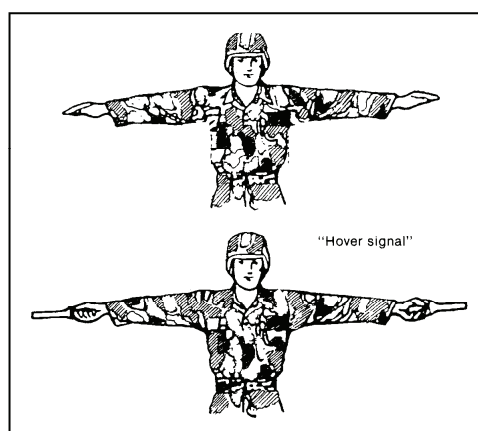

Figure 3-28. "Hover signal"
3. Use arm-and-hand signals. Refer to Figures 3-28 through 3-35.